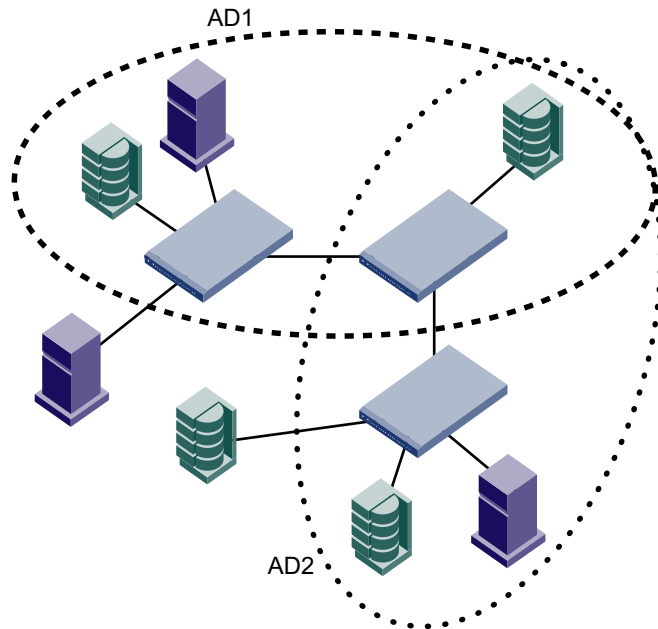
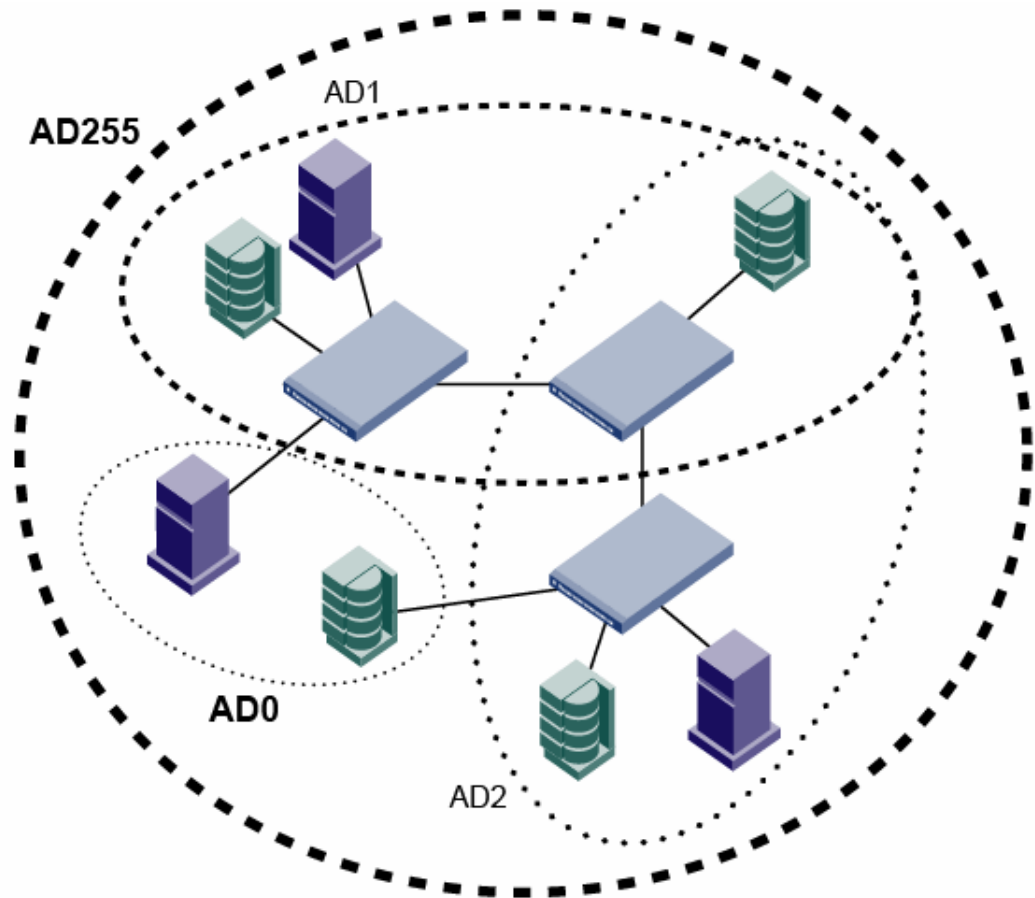

FIGURE 66 Fabric with two Admin Domains
FIGURE 68 Fabric with AD0 and AD255
Figure 66 shows a fabric with two Admin Domains: AD1 and AD2.
- Share resources across multiple Admin Domains. For example, you can share array ports and tape drives between multiple departments. In Figure 66 on page 486, one of the storage devices is shared between AD1 and AD2.
In Figure 66 on page 486, AD1 and AD2 are user-defined Admin Domains.
Figure 68 on page 490 shows the same fabric from Figure 66 on page 486, but with ADO and AD255 shown. ADO contains the two devices that are not in any of the user-defined Admin Domains (AD1 and AD2). AD255 always encompasses the entire physical fabric.